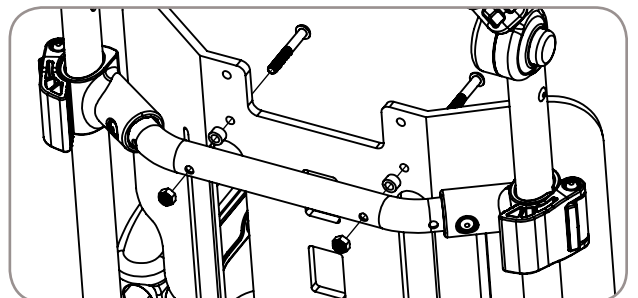

Figure 18
3. Reinstall plate with bolts through lower holes in back plate. Reference Figure 18.